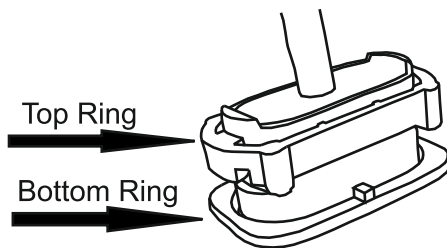

Fig. 2
- 2) The sensor module is fitted to the outer cover with a top ring and bottom ring as shown in Fig. 2.